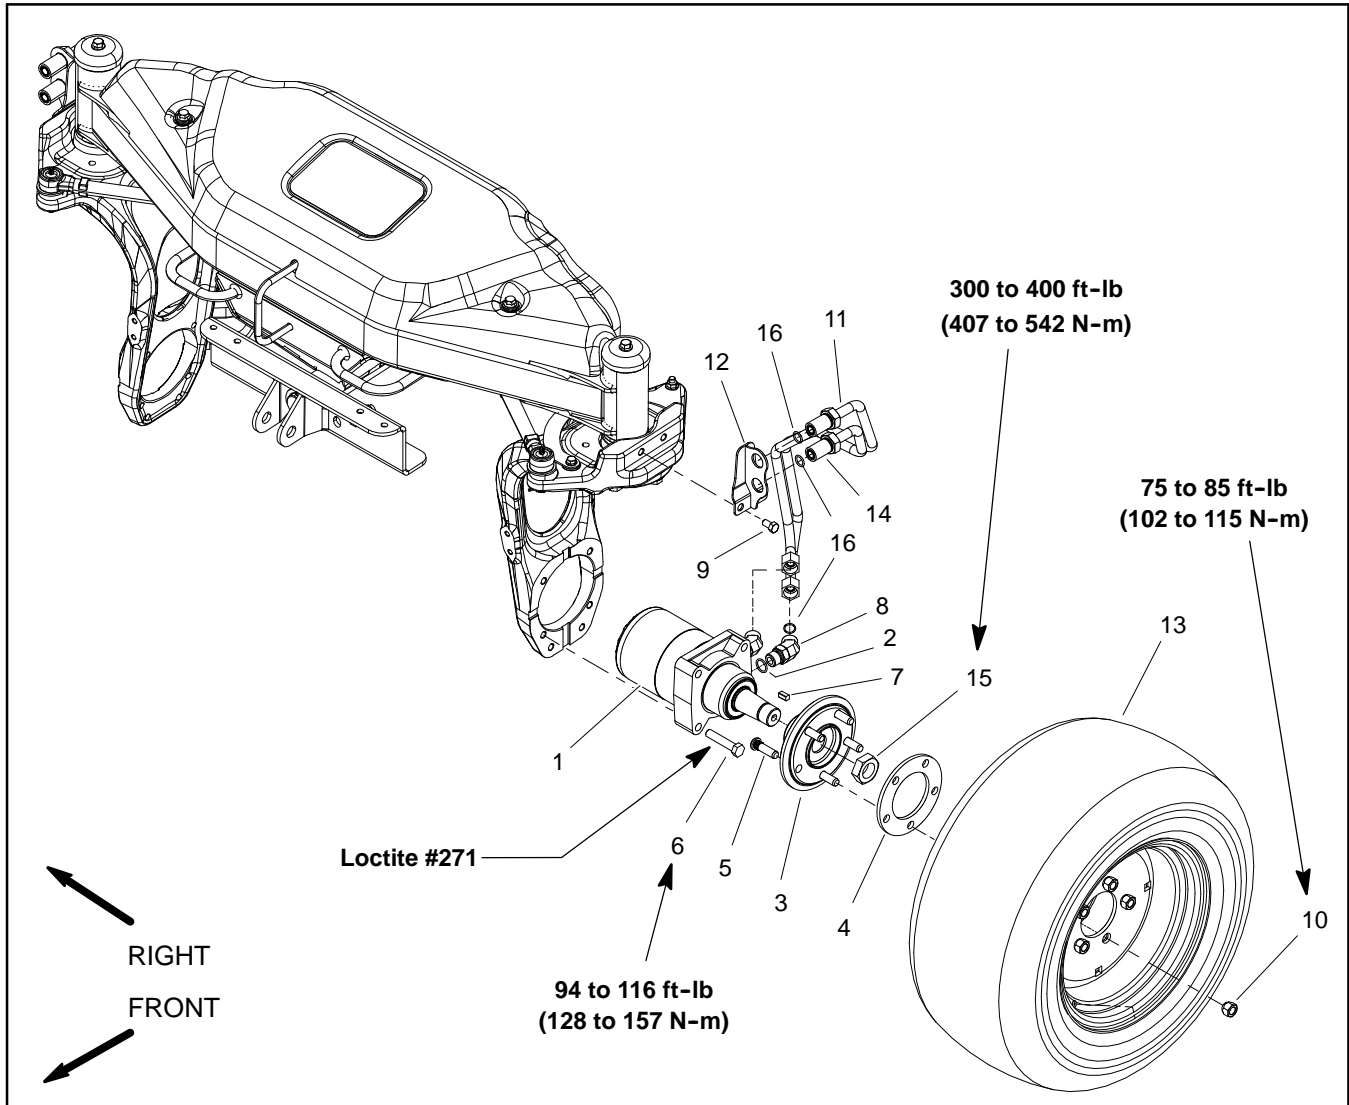

Figure 49
### Removal (Fig. 49)
5. Make sure that lock nut on wheel motor shaft is loosened at least two (2) turns. Use hub puller (see Special Tools in this chapter) to loosen wheel hub from wheel motor.
6. Remove lock nut (item 15) and wheel hub from motor shaft. Discard lock nut. Locate and retrieve square key (item 7).
11. Remove four (4) cap screws that secure wheel motor to the steering fork.
**Installation (Fig. 49)**
4. Apply Loctite #271 (or equivalent) to threads of cap screws. Secure front wheel motor to steering fork with four (4) cap screws. Torque cap screws from **94 to 116 ft-lb (128 to 157 N-m)**.
5. Mount square key (item 7) in the wheel motor shaft, then install the wheel hub onto the wheel motor shaft.
6. Install new lock nut (item 15) onto the wheel motor shaft to secure wheel hub to motor shaft.